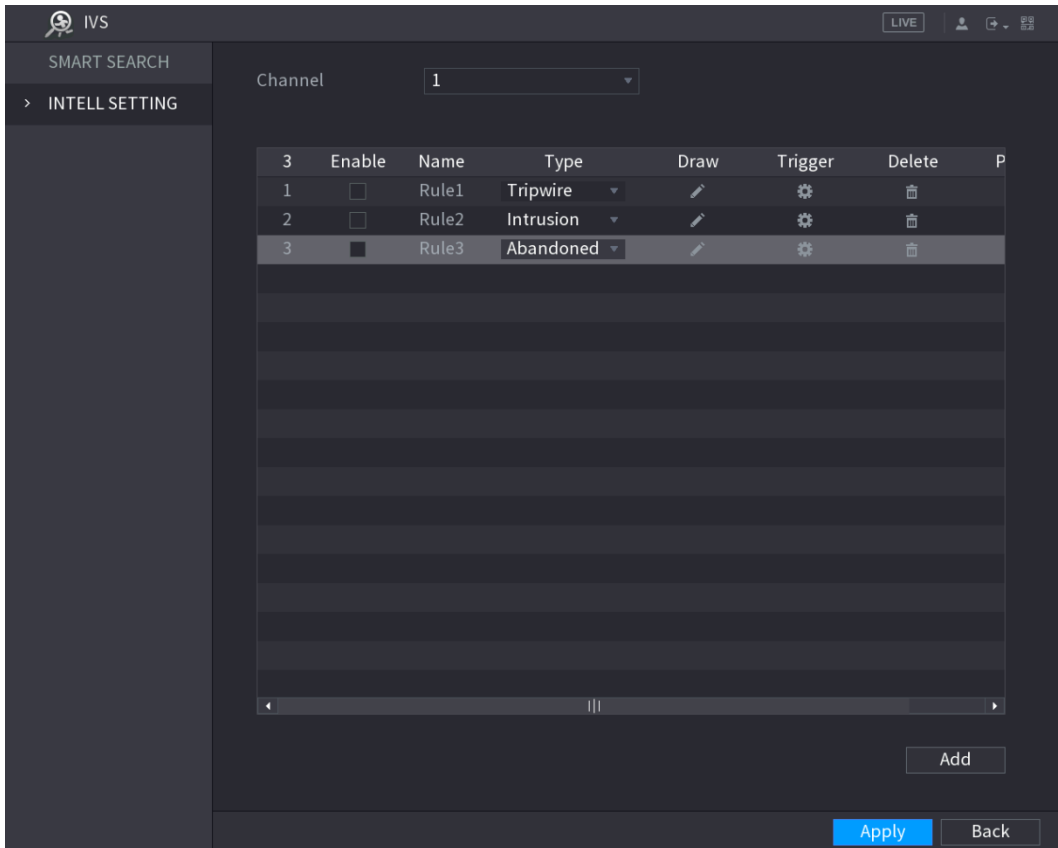

Figure 5-150
**Step 1** On the rule line that you added, in the **Type** list, select **Abandoned**. See Figure 5-150.